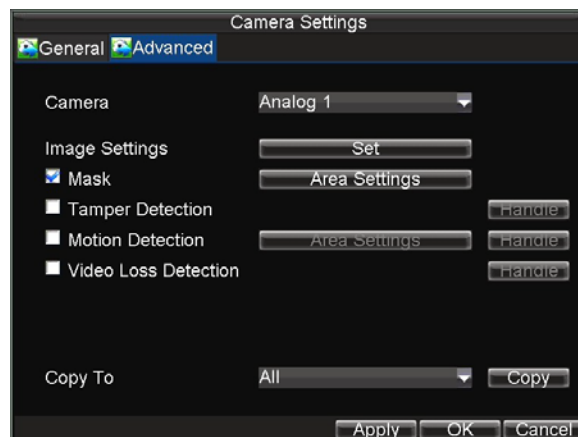

Figure 1. Advanced Camera Settings Menu
2. Click the **Advanced** tab to enter the Advanced Camera Settings menu, as shown in Figure1. Select channel for privacy mask settings in **Camera**.